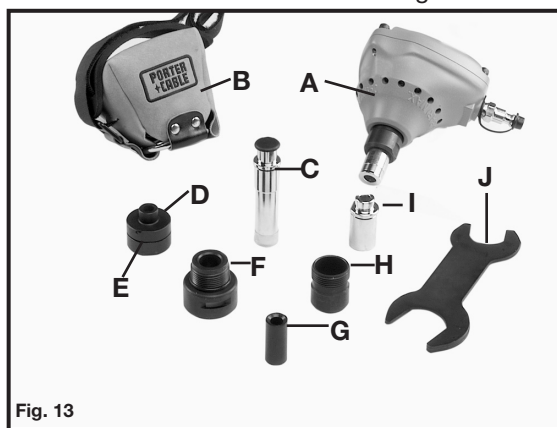

Fig. 13
Porter-Cable Model PN650 is a heavy duty pneumatic palm nailer. The tool, as supplied, is assembled with the magnetic nail guide for driving 6d to 16d common flat head nails. Other guides included in the kit are the finish nail guide (C) Fig. 13 for 1-1/4"(3d) to 2-1/2"(8d) finish nails, standard guide (I) and bushing (H) for 4" (20d) to 6-1/2" (70d) common nails/spikes. A hammer head attachment (D-G) is also supplied, which is capable of various other driving tasks not suitable for the other three guides.